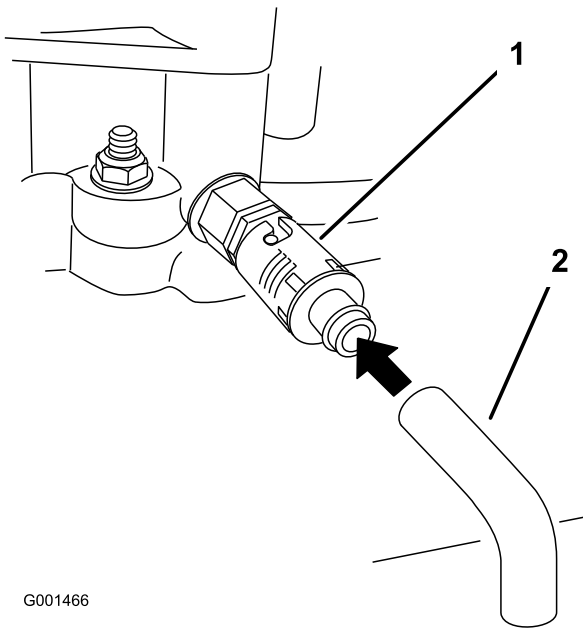

Figure 33
5. Place a pan below the drain hose. Rotate oil drain valve to allow oil to drain (Figure 33).
7. Remove the drain hose (Figure 33).